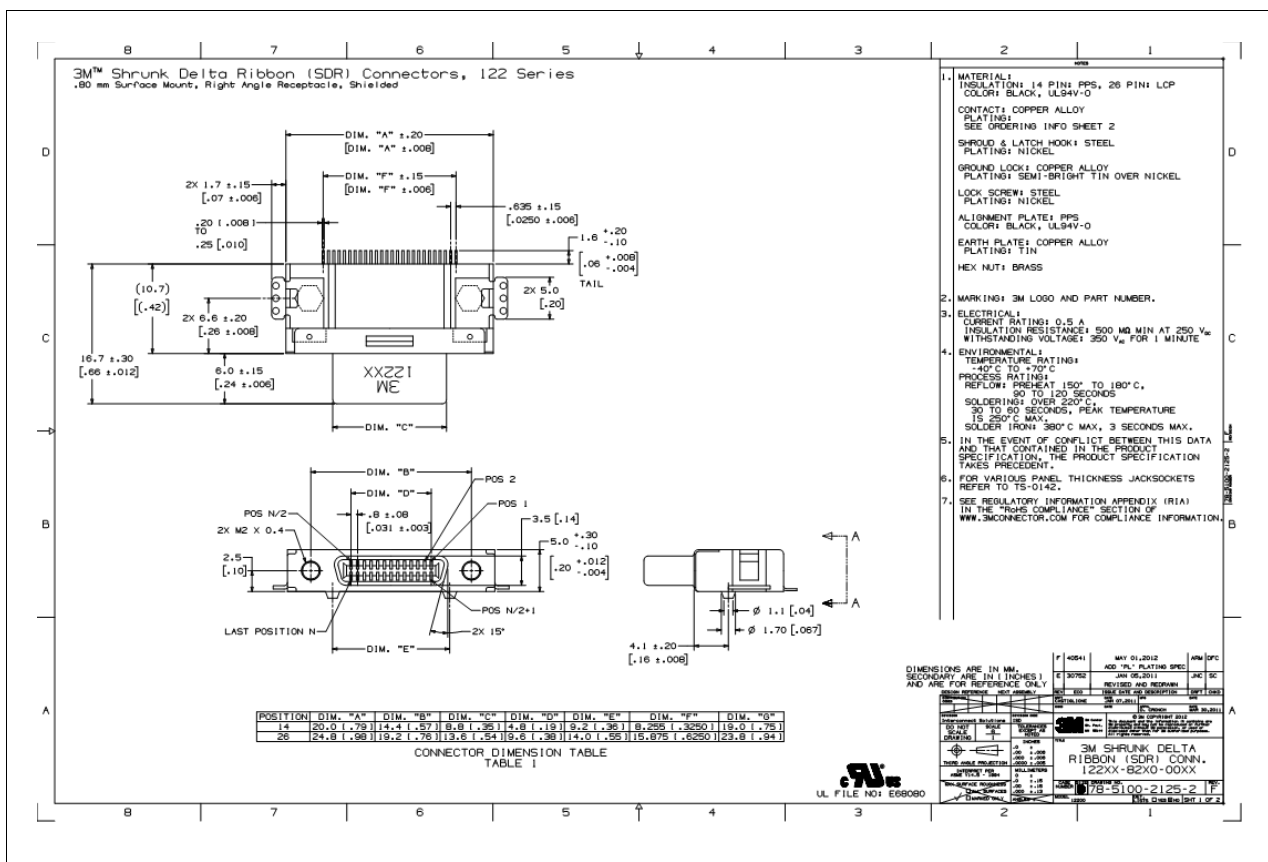

Figure 10 - 3M SDR Connector Mechanical Drawing
The ADC_3117 features two(2) 3M SDR Connectors (Part Number 12226-8250-00FR) in its front panel with the mechanical drawing showed in Figure 10.